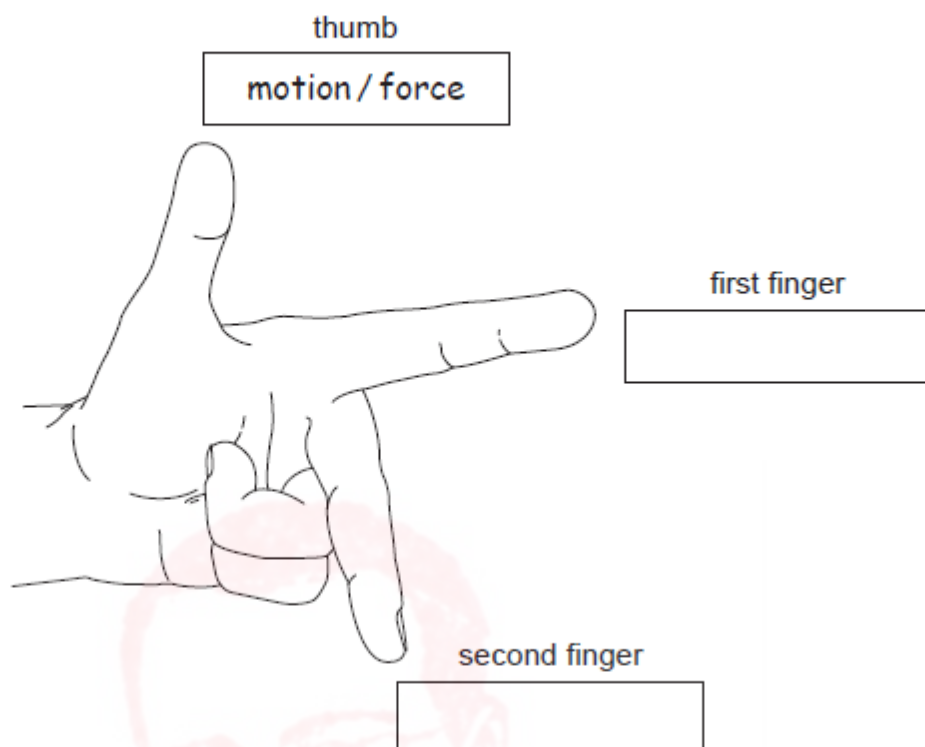

Fig. 9.1
- 9 (a) Fig. 9.1 illustrates the left hand rule, which helps when describing the force on a current-carrying conductor in a magnetic field.